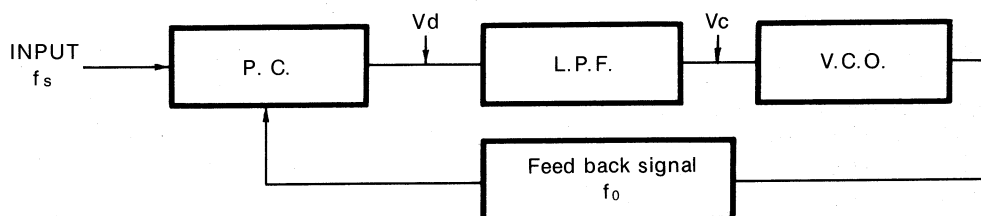

Fig. 14. Basic PLL
A PLL circuit is like an electronic servo system designed to self-correct and provide an extremely accurate output. It is typically composed of a Phase Comparator (PC), Low-Pass Filter (LPF), and a Voltage Controlled Oscillator (VCO). See Fig. 14.